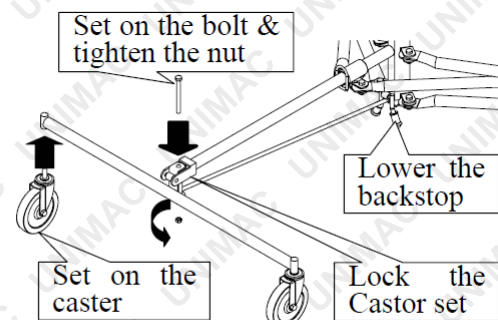

Fig. 3
- To prevent the tripod base from rolling backward during assembly, lower the backstop as shown in Figure 3.
To prevent the drywall from overturning, turn the caster set lock to the locking position as shown in Figure 3 while working.